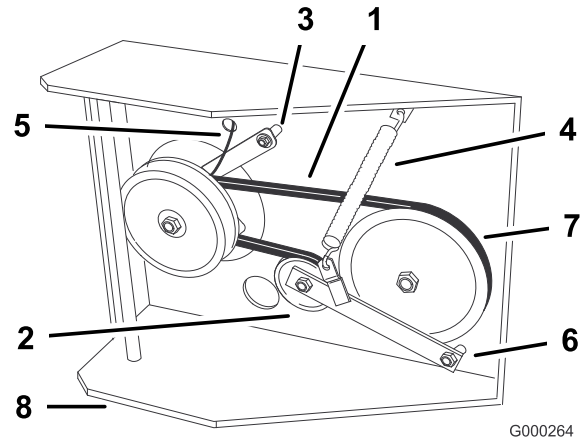

Figure 49
6. Disconnect the clutch retainer from the engine deck (Figure 49).
7. Unhook the tension spring from the side of the frame (Figure 49).
11. Install the tension spring between the idler arm and frame bracket (Figure 49).
12. Install the clutch retainer to the engine deck (Figure 49).